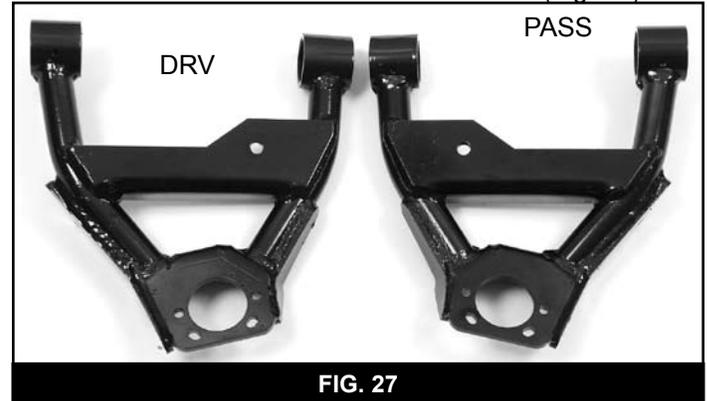

FIG. 27
54. Locate the new driver's side control arm (Fig. 27).